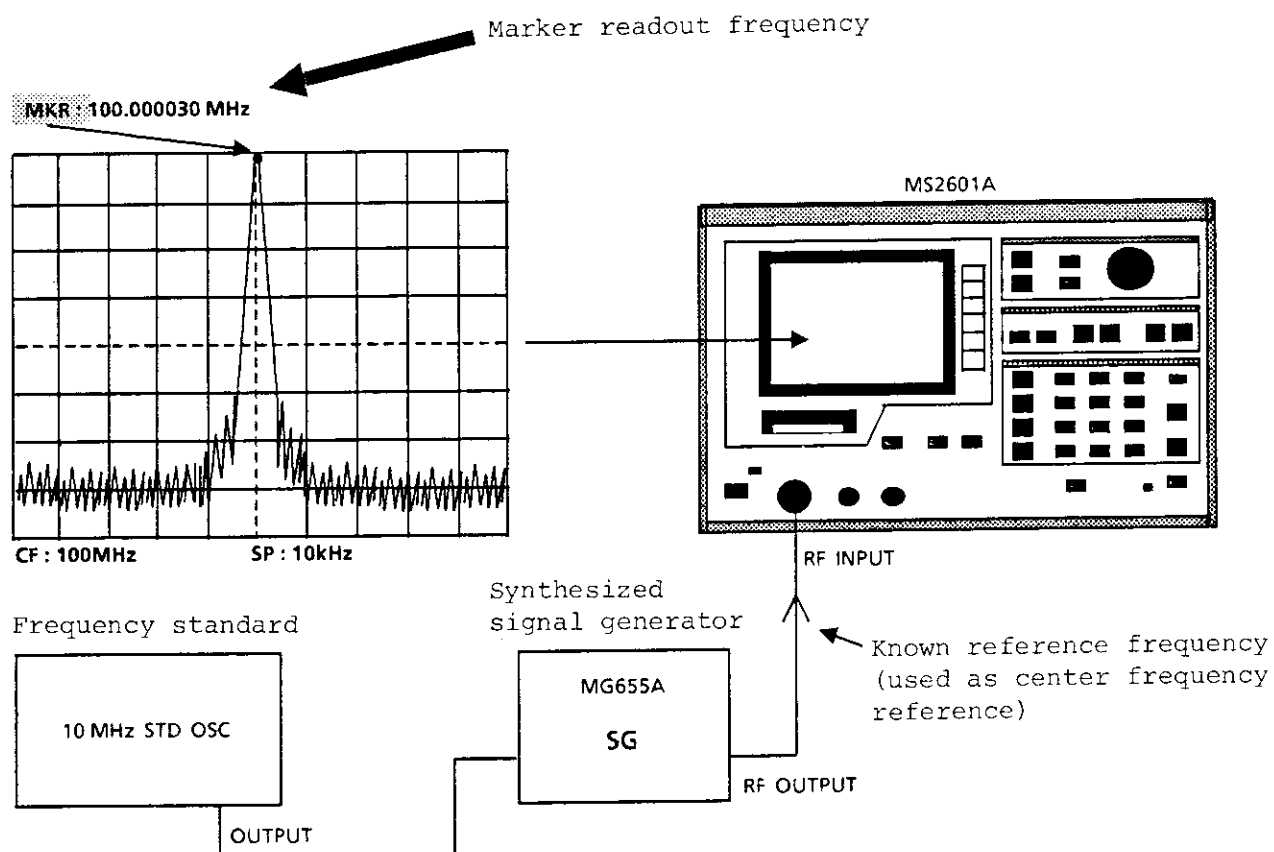

Fig. 4-4 Center Frequency Readout Accuracy Test
Add the known frequency which serves as the center frequency reference to the MS2601A as shown in Fig. 4-4 and set CF (same value as the known reference frequency) and SPAN. At this time, check that the difference between the reading of the marker readout frequency (thick arrow in Fig. 4-4) of the center frequency peak point, and the CF set value is  $\leq \pm(100 \text{ Hz} + 2\% \text{ of frequency span} + \text{tuning frequency} \times \text{reference frequency accuracy})$ .
The MG655A Synthesized Signal Generator is phase-locked with the same accuracy as the 10 MHz reference oscillator (Fig. 4-4) and its 100 MHz and 1000 MHz signals are used as a reference center frequency.
- 6 Read the marker frequency (indicated by thick arrow in Fig. 4-4) and check that the value is within the range between the maximum and minimum values shown in Table 4-3.